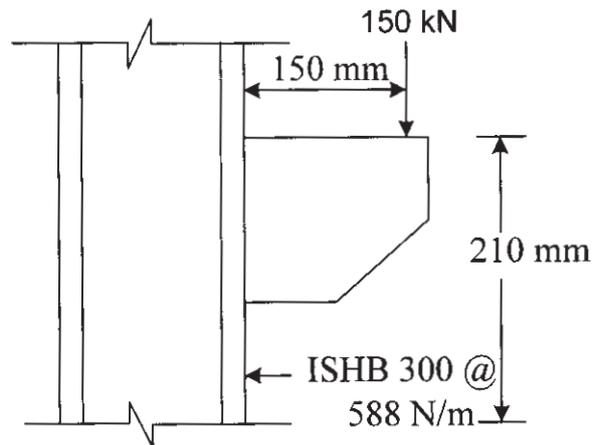

Fig. 2 (c)
- c) A bracket plate 10 mm thick is used to transmit a reaction of 150 kN at an eccentricity of 150 mm from the column flange as shown in Fig. 2 (c). Design the weld. [10]